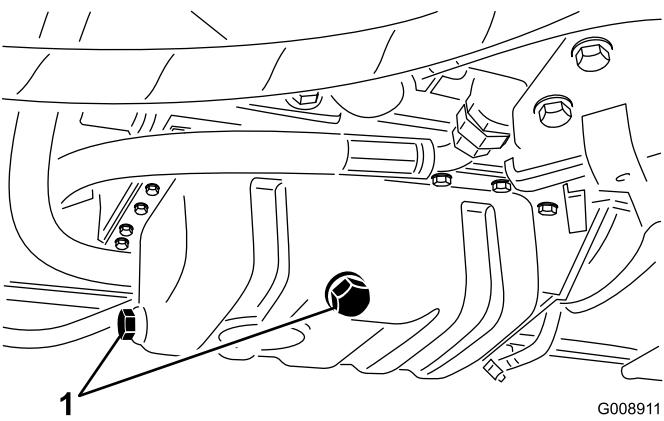

Figure 61
- Remove either drain plug (Figure 61) and let the oil flow into a drain pan; when the oil stops flowing, install the drain plug.